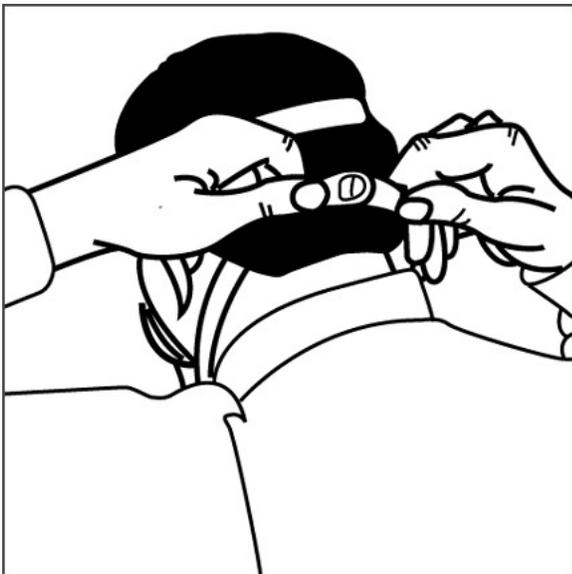

Fig. 5
2. Take the bottom straps in both hands, place them in back of the neck, and hook them together. (Fig. 5)